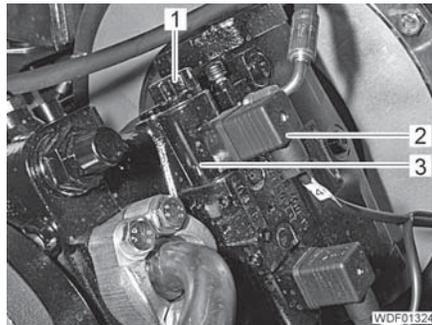

Fig. 447 Variable displacement pump solenoid valve
- Unscrew the screw (Fig. 447,2) on the connector.
- Unscrew the nut (Fig. 447,1).
- Pull off the coil (Fig. 447,3).
- Attach the new coil (Fig. 447,3) onto the core of the solenoid valve.
- Screw the nut (Fig. 447,1) with the O-ring onto the core of the solenoid valve and tighten it hand-tight.
- Plug the plug (Fig. 447,2) into the connections on the coil.